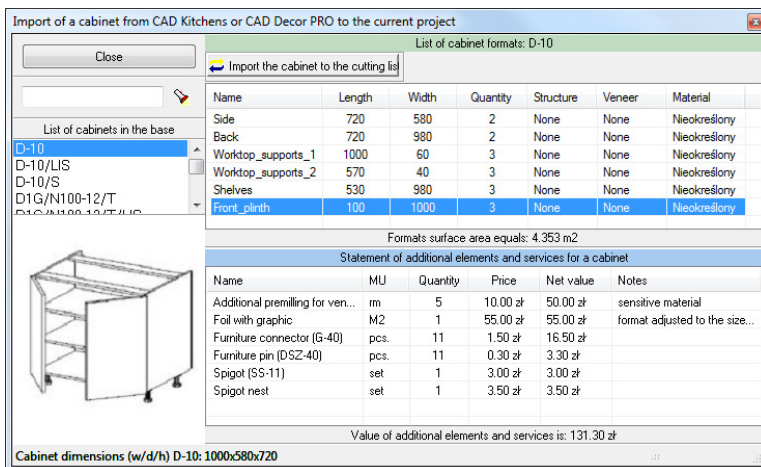

Fig. 46 – importing a single cabinet from the CAD Kitchens database
5) **Import a single cabinet** – opens the window called **'Import of a cabinet from CAD Kitchens or CAD Decor PRO to the current project'** (Fig. 46 on the next page), in which you can get formats of components of a chosen cabinet to the cut list by indicating the cabinet on the list and clicking **'Import the cabinet to the cut list'**. The cabinet can be imported only after defining its formats first by using a function **'Edit cabinet parameters'** in the **'Database'** tab of the top menu. For more information please see point 3.4. on page 18 and Chapter 7 on page 41.